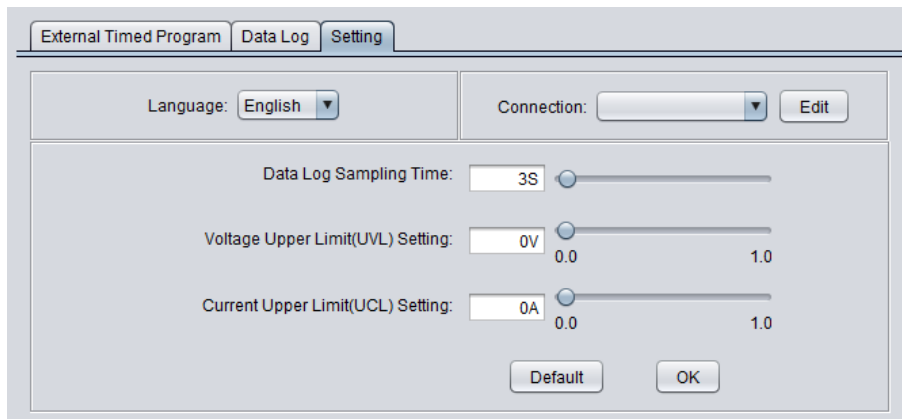

Figure 7.12
- Select the “Setting” tab. See Figure 7.12